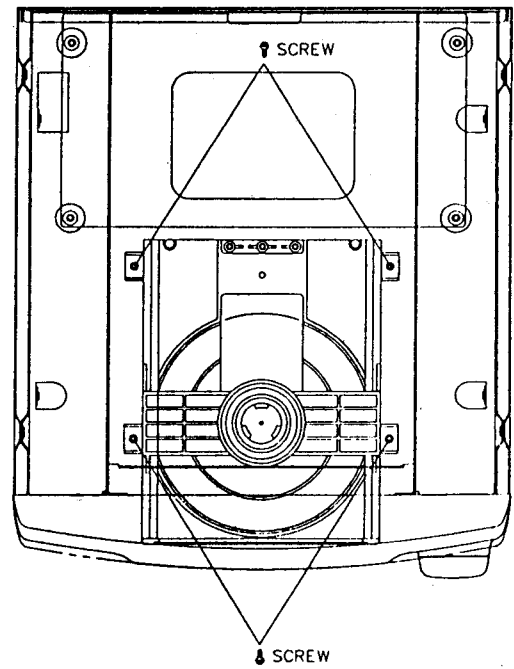

Fig. 2
1) Remove the four retaining screws, then remove the CD mecha. unit (fig 2)